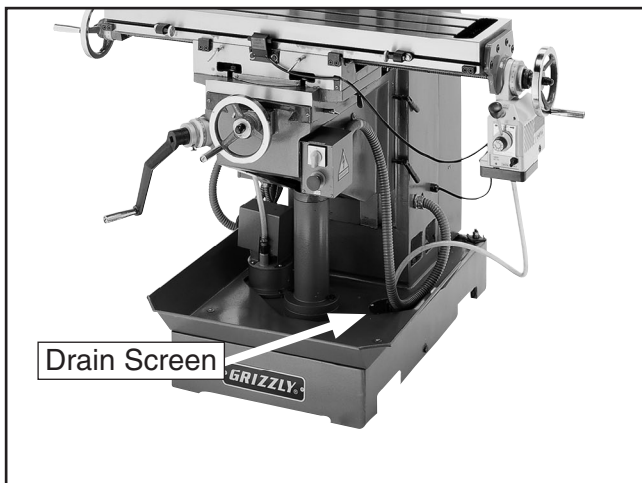

Figure 58. Coolant tank drain screen location.
1. Remove the drain screen (**Figure 58**), and inspect how far the coolant is from the top of the tank.